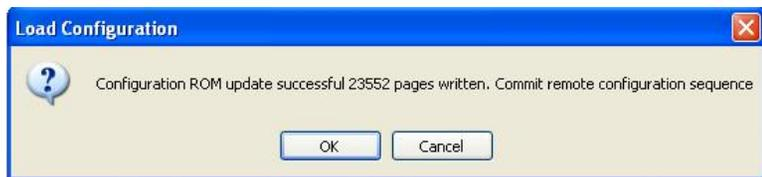

Figure 17 – Firmware commit message
4. The software will load the firmware image into a temporary location in the hardware. This may take several minutes. When this is complete, a window will appear asking if the firmware should be updated (Figure 17). Click "OK" in this window.